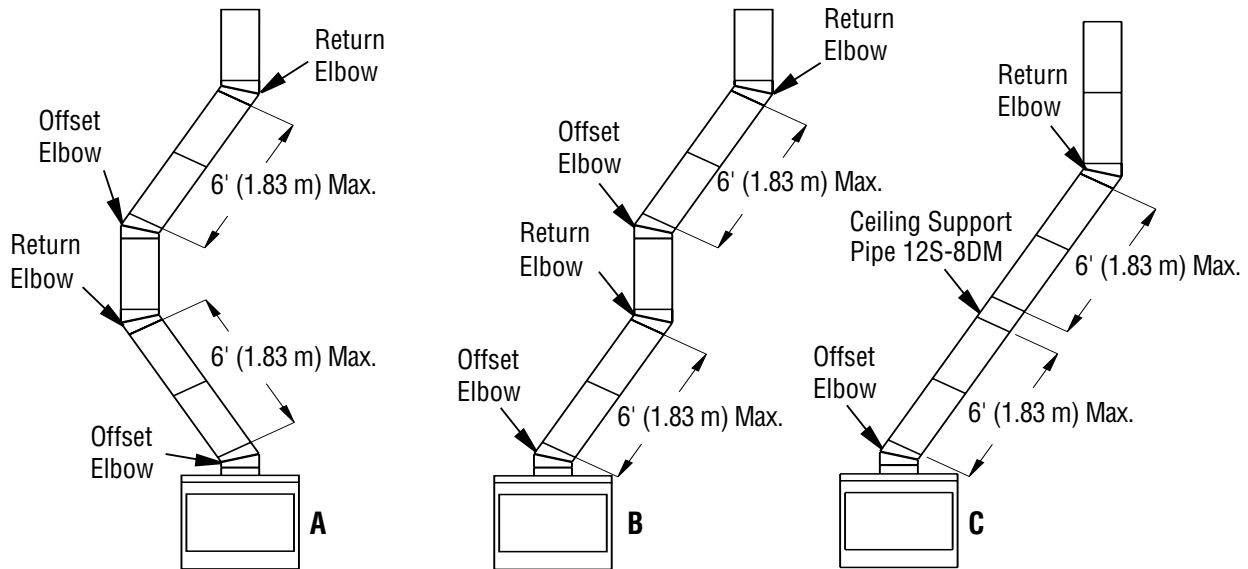

Figure 7 - Typical Offset Terminations
1. To achieve desired offset, you may install combinations of 12", 18", 24", 36" and 48" length of double wall pipe (see offset chart, page 9 and Figure 7).
3. Maximum length of pipe between supports (return elbow or 12S-8DM) is 6' of angle run. Maximum of two 6' angle run sections per chimney system (see Figure 7).